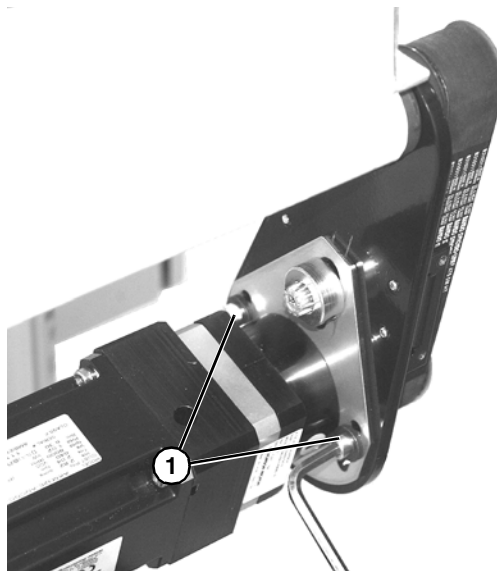

Figure 11
- Loosen two M8 screws (**Figure 11, item 1**).
- Tighten two M8 screws (**Figure 11, item 1**) to secure belt position.